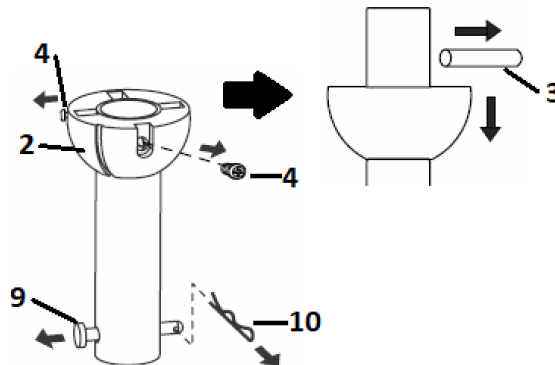

Fig. 4.1
1. Remove the ball joint (2) and dowel pin (3) by loosening the set screws (4) from the down rod (6). Remove the hitch pin (9) by removing the lock clip (10) (Fig. 4.1). **NOTE: Do not discard these parts, they are required to reassemble later.**